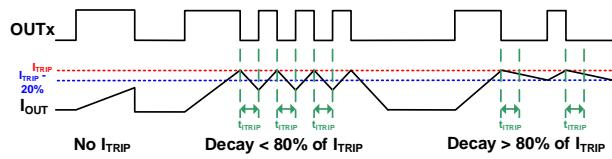

Figure 2: Current Regulation
2. The load current (I_{LOAD}) increases, which is sensed by the internal current-sense (CS) circuit.
4. After a fixed off time ($t_{I_{TRIP}}$), if I_{LOAD} falls $\geq 20\%$ below the current limit threshold, the MOSFETs are re-enabled and the cycle repeats (see Figure 2).